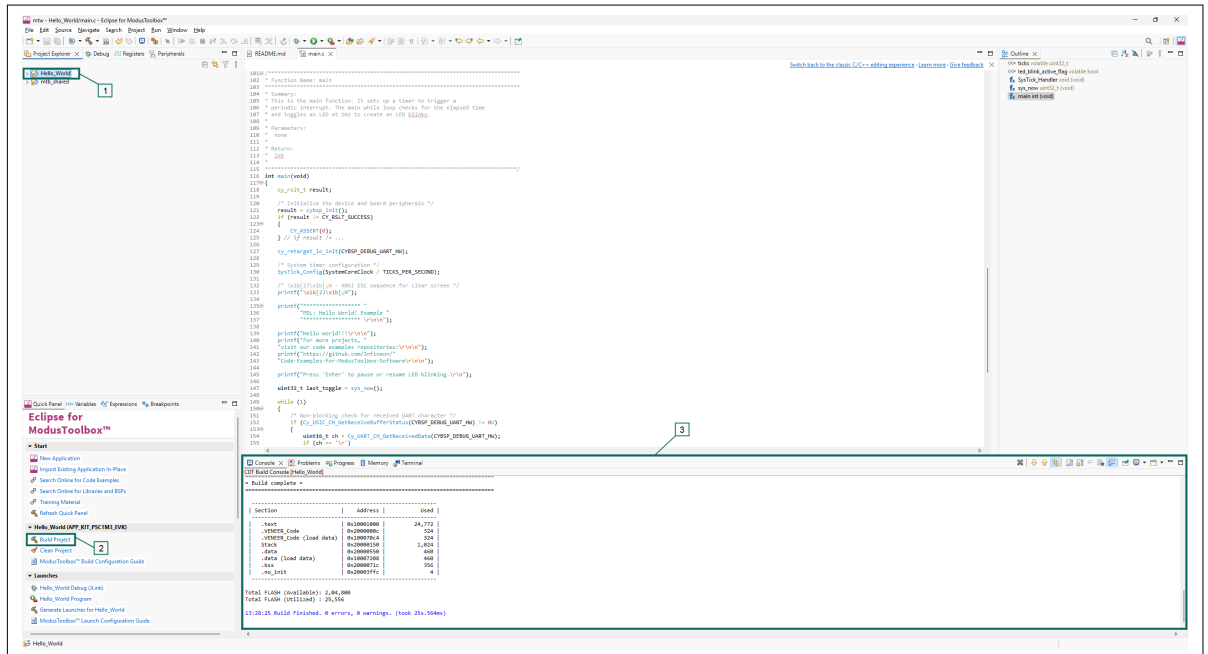

Figure 13 Build the application
3. The **Console view** lists the results of the build operation, as Figure 13 shows